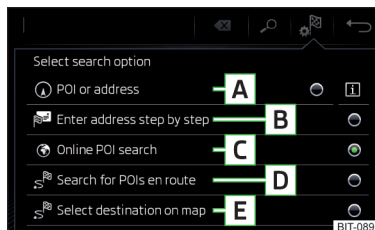

Fig. 224
Functional surfaces » Fig. 224
- Then tap the function surface of one of the menu items for the destination search **A**, **C** or **D** » Fig. 224 on page 182.
- ▶ Then tap the function surface  → **E** » Fig. 224 on page 182.